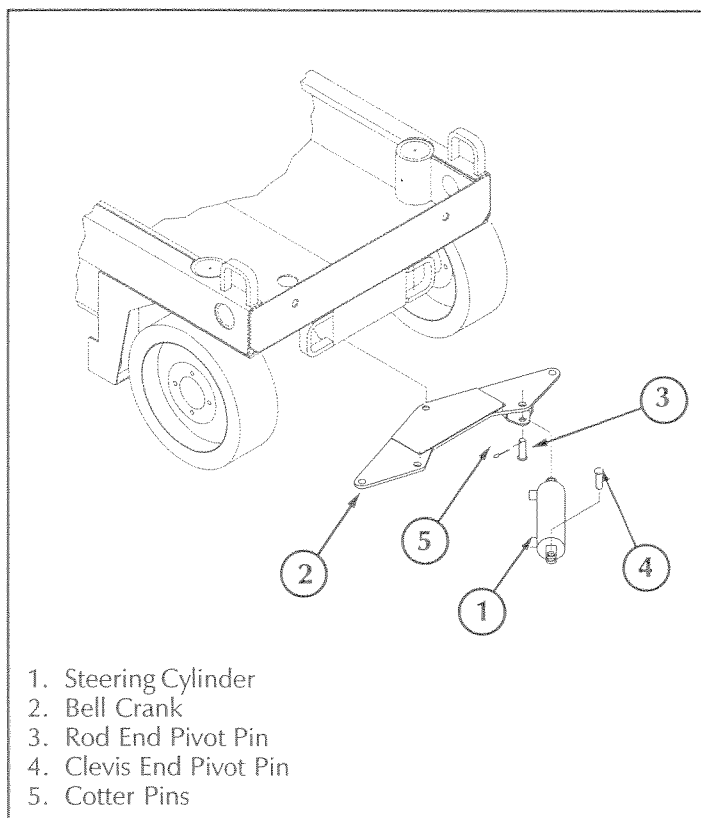

Figure 3-15: Steering Cylinder Installation
3.11 Steering Cylinder (Figure 3-15)